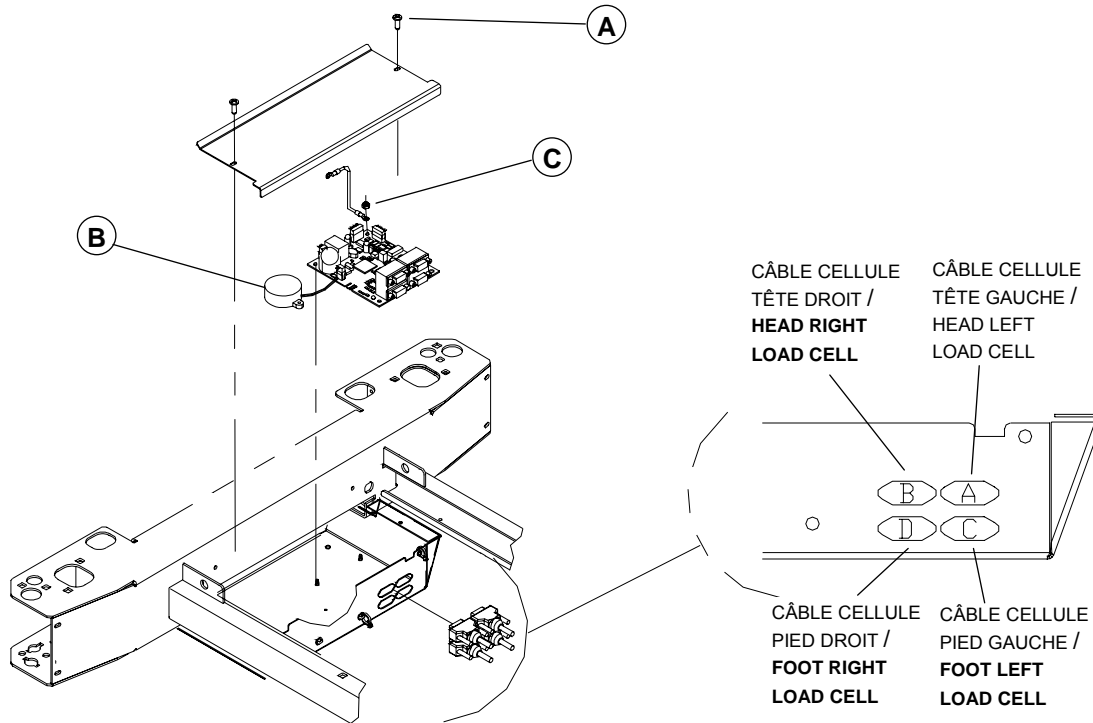

Figure 4.3E
4. Using a no. 2 Phillips screwdriver, remove the two screw (A, fig. 4.3E, page 38) holding the cover plate of the scale board casing. Remove the plate.
6. Using a no. 2 Phillips screwdriver, remove the nut/washer/bolt (A) holding the transformer to the casing. Disconnect the transformer cable and remove it.